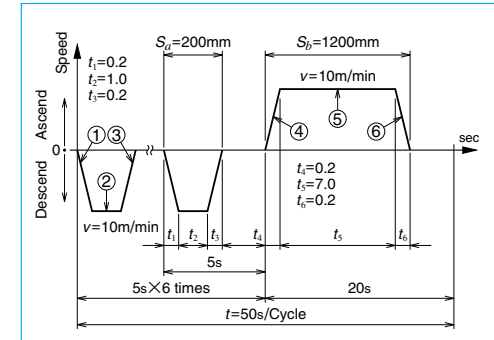

Fig. II-15-7
③ Checking basic safety
(1) Checking allowable axial load
① Calculation of allowable axial load (see Fig. II-15-7.)